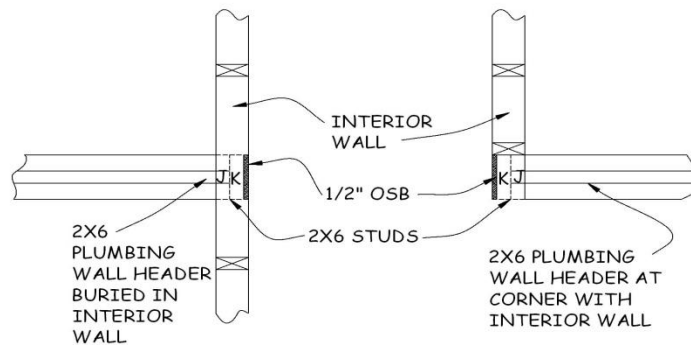

Figure 3-7. Plumbing Wall Configuration.
- b. A 2x6 sliding closet wall intersecting a 2x4 wall at 90°: The intersection of the closet wall framing with the 2x4 interior wall requires a special header configuration (see Figure 3-7). If the two walls create an “L”, butt the side of the 2x6 wall against the end of the 2x4 wall (this makes the 2x6 wall the “long” or overlapping wall). If they create a “T” (where the 2x6 wall butts up to the 2x4 wall), extend the closet header into the 2x4 wall. In both cases, lay out the Jack stud flush with the closet side of the 2x4 wall. Adjoining that will be the King stud and ½” of OSB, creating a 3½”-wide block equal in width to the 2x4 interior wall.